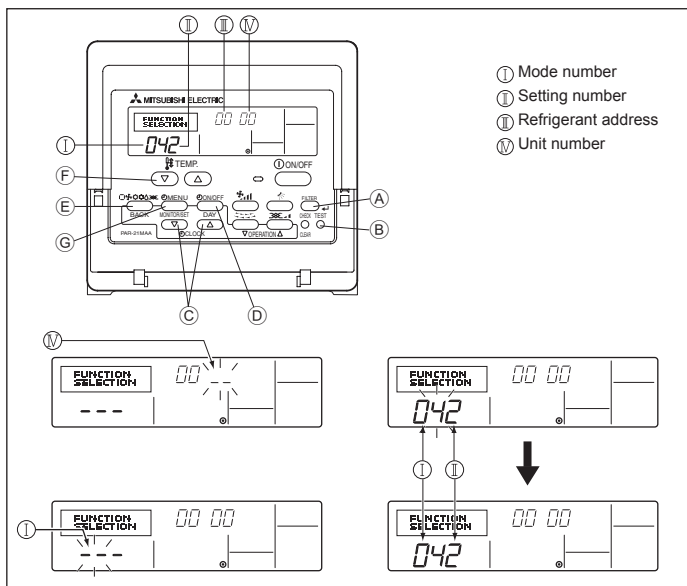

Fig. 6-5
1) For wired remote controller (Fig. 6-5)